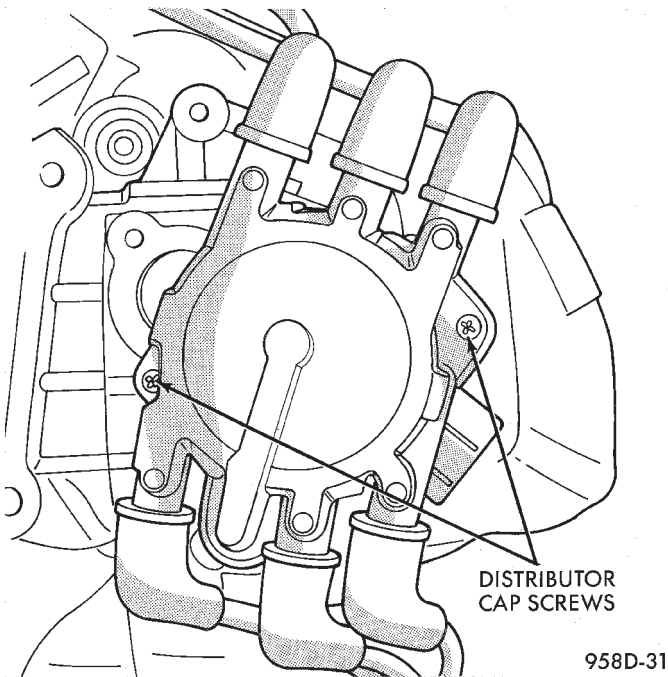

Fig. 48 Distributor Cap Screws
- (1) Remove bolt holding air inlet resonator to intake manifold.
- (2) Loosen clamps holding air cleaner cover to air cleaner housing.
- (3) Remove PCV make-up air hose from air inlet tube.
- (4) Loosen hose clamp at throttle body.
- (5) Remove air inlet tube, resonator and air cleaner cover.
- (6) Remove EGR tube.
- (7) Remove spark plug cables from distributor cap.
- (8) Loosen distributor cap holddown screws and remove cap (Fig. 48).
- (9) Transfer cables from old cap to new cap. The cap is numbered and so are the cables.
- (9) Mark the rotor position and remove rotor. The mark indicates where to position the rotor when reinstalling the distributor.